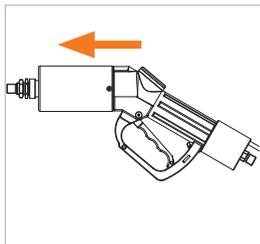

Figure 11
- ▶ Push the fueling nozzle onto the receptacle on the vehicle until it stops and hold the nozzle in this position (OFF position; Figure 11).